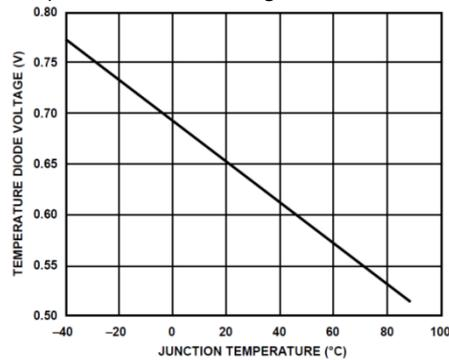

Figure 9. Typical voltage response of a 1× temperature diode
- 3) Configure register 0x18E6 to 0x01 to enable the voltage output of the 1× temperature diode. A typical voltage response of the temperature diode is shown in Figure 9. Although this voltage represents the chip temperature, it is recommended to measure it using a pair of diodes for improved accuracy.